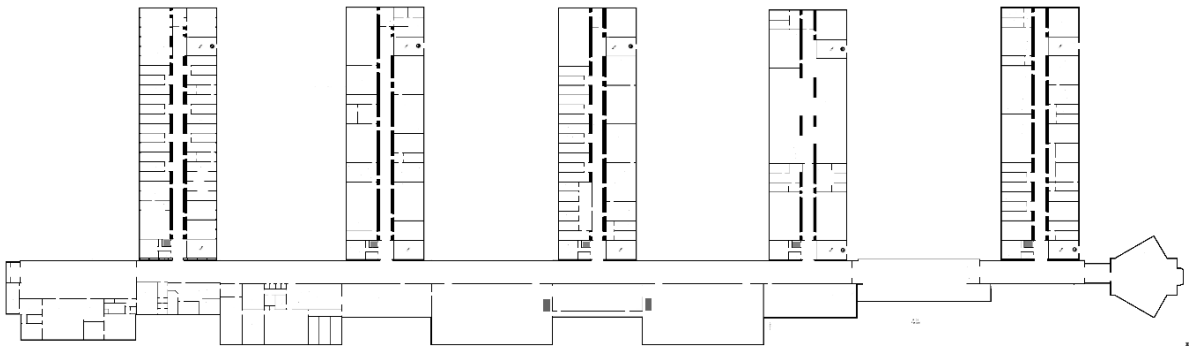

FIGURE 1: THE COMPLETE MAP OF SDU.
- The map "complete\_map\_project.pgm" use a scale 10pixel:1m and figure 1 shows the complete map.